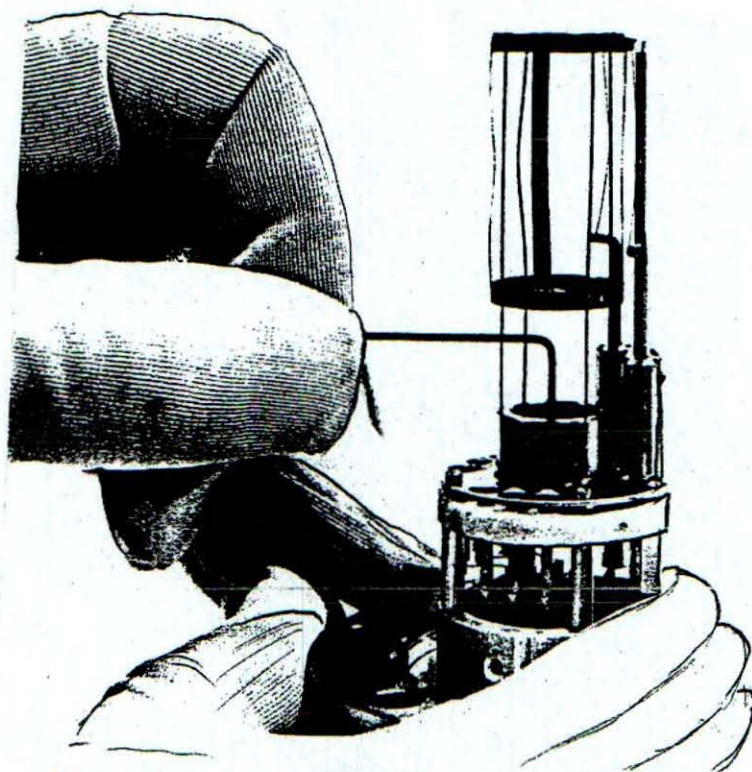

Figure 7. Insertion of new filament assembly.
6. Insert the new filament assembly. Tighten the screw holding the center support rod on the filament assembly, making sure that the curved filament support member is concentric with the grid (Figure 7).